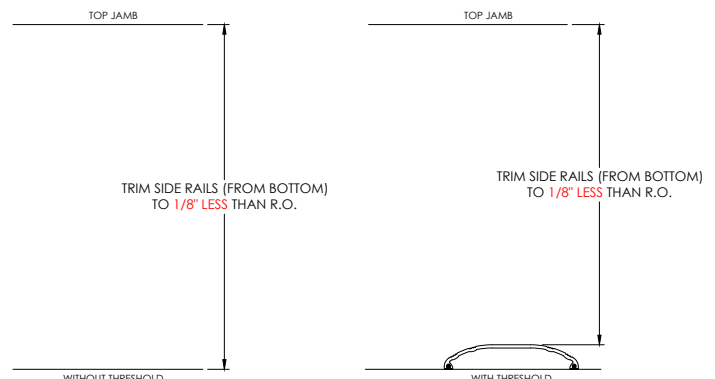

Figure 2
- Measure the jamb door opening heights at each side (from the top of the threshold if you are using it). Trim the length of each side rail (from the bottom) with a hacksaw or chop saw to the opening size less $\frac{1}{8}$ " (to allow header to slip in above). See Fig. 2.